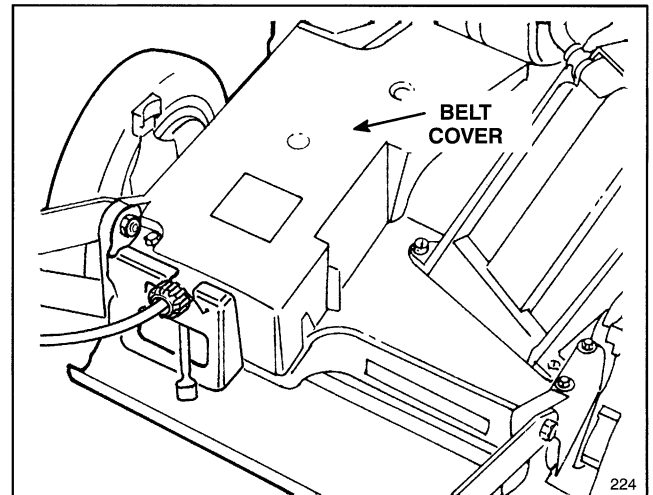

Figure 33
1. Remove bolts securing belt cover (Fig. 33) to mower housing. Lift off cover and brush out all debris from belt area. Reinstall belt cover.